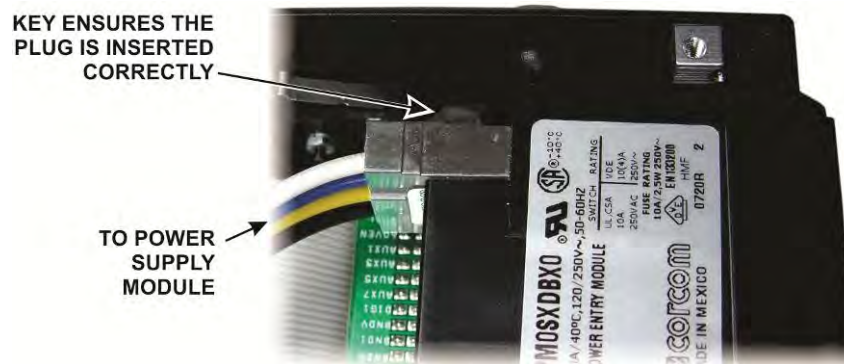

Figure 41. Connecting the 4-Wire Cable to the Power Entry Module.
□ Connect the four-wire cable from the power supply module to the power entry module as shown in Figure 41. This cable has four heavy wires: black, yellow, blue and white with the white wire at the top. The key prevents installing the plug incorrectly.